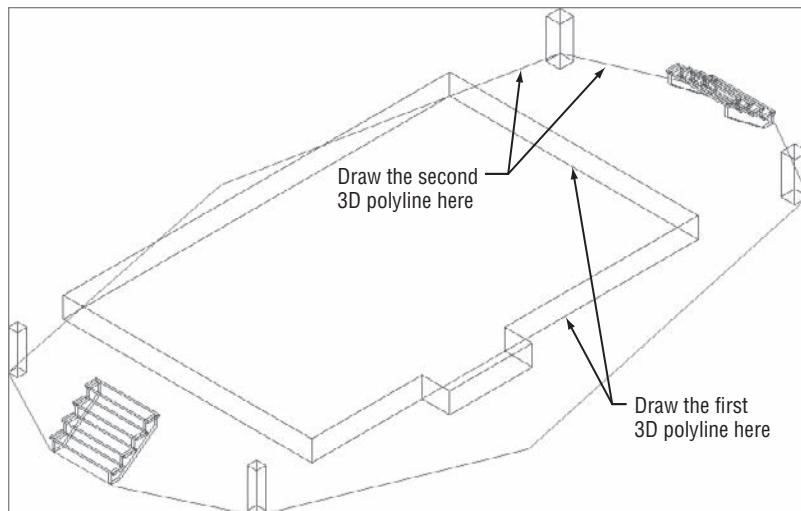

FIGURE 17.1 Draw the first two 3D polylines around the cabin.
4.  Start the **RECTANG** command and draw a closed polyline around the perimeter of the base of the foundation, as shown in Figure 17.1. Use the Endpoint osnap to snap to opposite vertices at the bottom corners of the foundation.
5.  Use the **PLINE** command to draw another closed polyline around the concrete support posts, snapping the outside corner of each, and the outside corners of the stringers (see Figure 17.1).